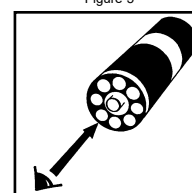

Figure 6
- a. **Low Range Comparator (fig. 6):** Place the ampoule, flat end first into the comparator. Hold the comparator up toward a source of light and view from the bottom. Rotate the comparator until the best color match is found.